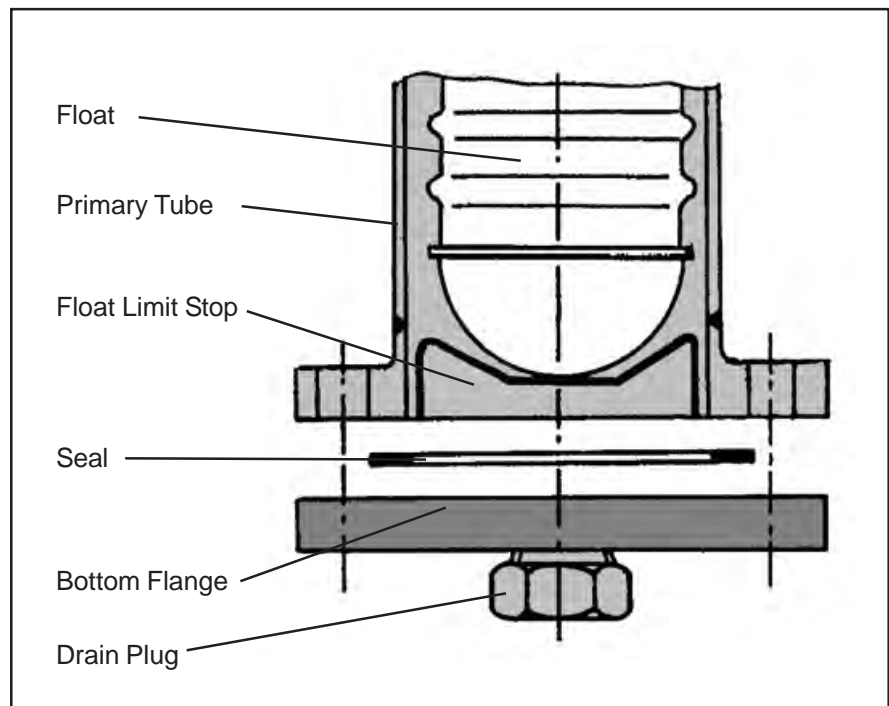

Figure 4-6 Location of Float Limit Stop
In a normal use, rollers or flaps located below the black sticker on the indicator screen must be red. If those are blue, it means that the float is either damaged or incorrectly fitted inside the gauge (See below). The float should be checked by removing it from the gauge. (See Figure 4-6) This feature is for rollers/flaps versions only.
- Re-install the limit stop and the bottom flange (see Figure 4-6)